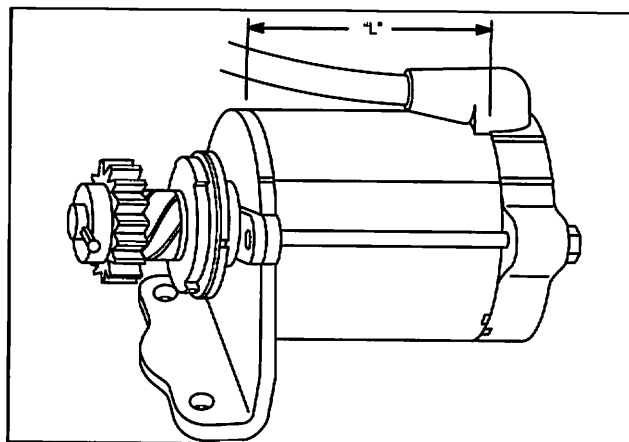
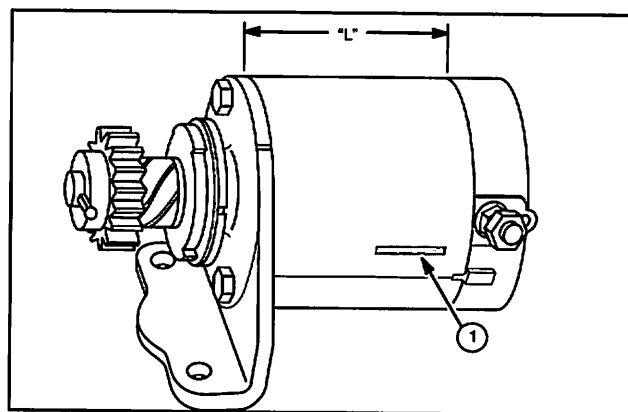

Fig. 19
Fig. 20
See Figs. 19 and 20, and Tables No. 6 and 7, Specifications, for motor identification and performance standards. Motor identification code shown (1), Fig. 20.